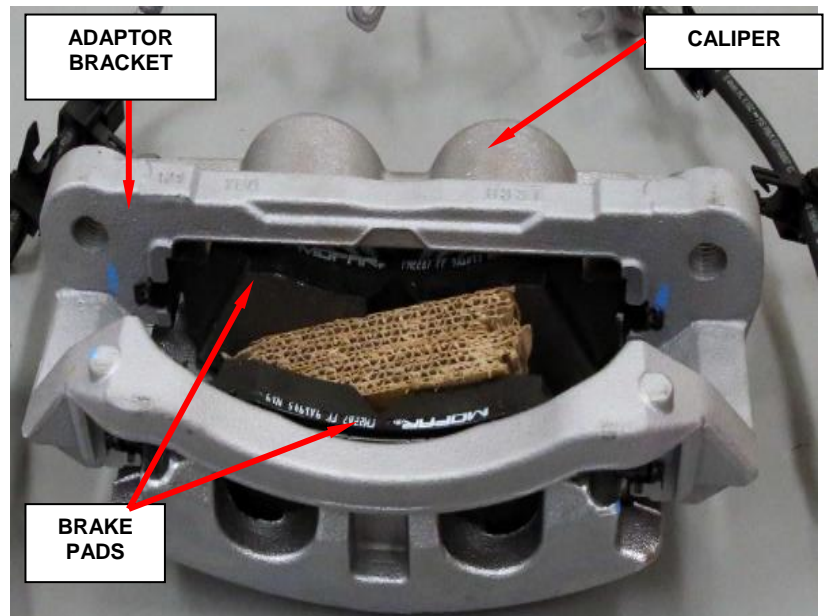

Figure 6 – New Caliper Assembly
10. Position the **NEW** brake caliper and caliper adapter assembly to the vehicle (Figure 6).